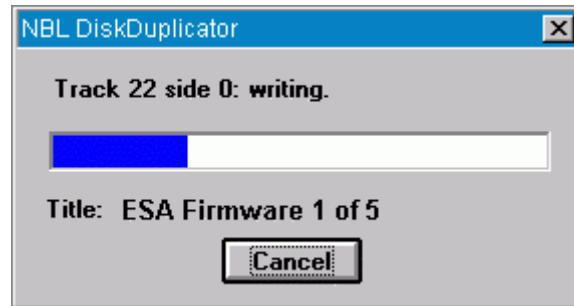

Figure 7
6. Insert the floppy diskette labeled "ESA Firmware 1 of 5" into the disk drive and click on "OK". The text box shown in **Figure 7** will be displayed as the tracks are recorder onto the diskette.